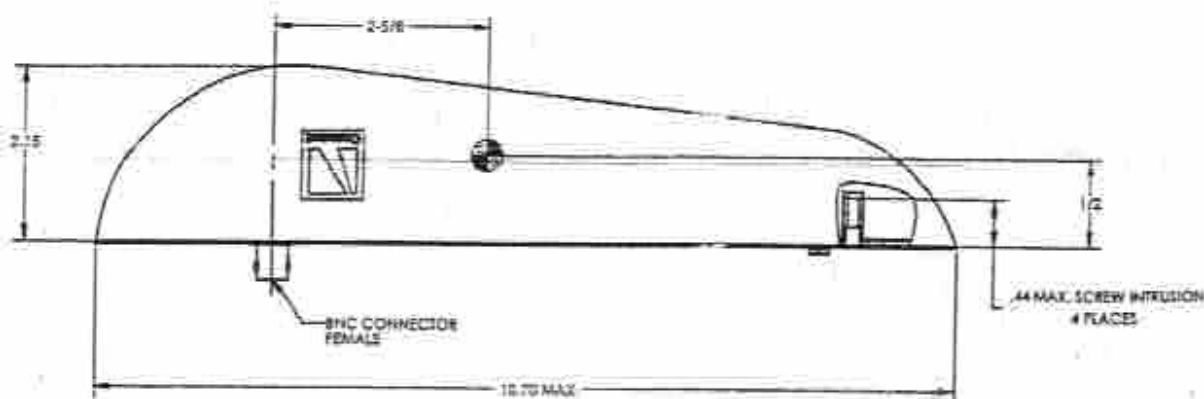

FIGURE 2.
- 1) Mount a 102 MARKER BEACON antenna using 4 #10-32 threaded fasteners (**Not Supplied**) from the inside of the aircraft to sandwich the aircraft skin between the antenna base plate and the internal backing plate or doubler. Make sure that the screw length does not exceed the .44 maximum screw intrusion depths shown in figure 2. Otherwise the rivnuts inside the antenna may be damaged and prevent the antenna from mounting closely to the aircraft fuselage. **Note:** that a .328 clearance hole is required on the aircraft for the factory set tuning screw which must not be adjusted. Gently tighten the hardware so that uniform stress is placed on either side of the antenna base plate and make sure that the connector has sufficient clearance through the aircraft skin. Torque to 20-25 in-lbs.